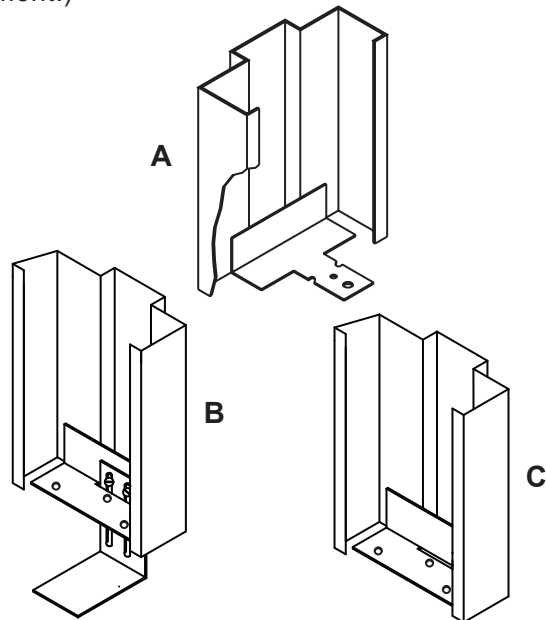

Figure 6 – Extended base anchor
4.2 Extended base anchor (see Figure 6)